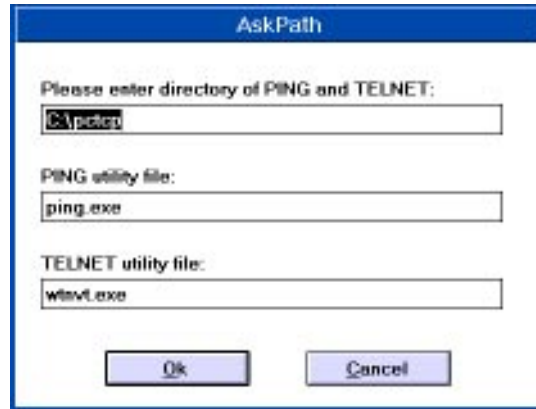

Figure 3-6 AskPath Dialog Box
- 10 (IP Only) The AskPath dialog box appears (Figure 3-6) and requests the path of the Ping and Telnet utilities included with your TCP/IP stack. Note that both program files must be in the same directory. Enter the full path of the directory containing the Ping and Telnet utilities. If the program names of